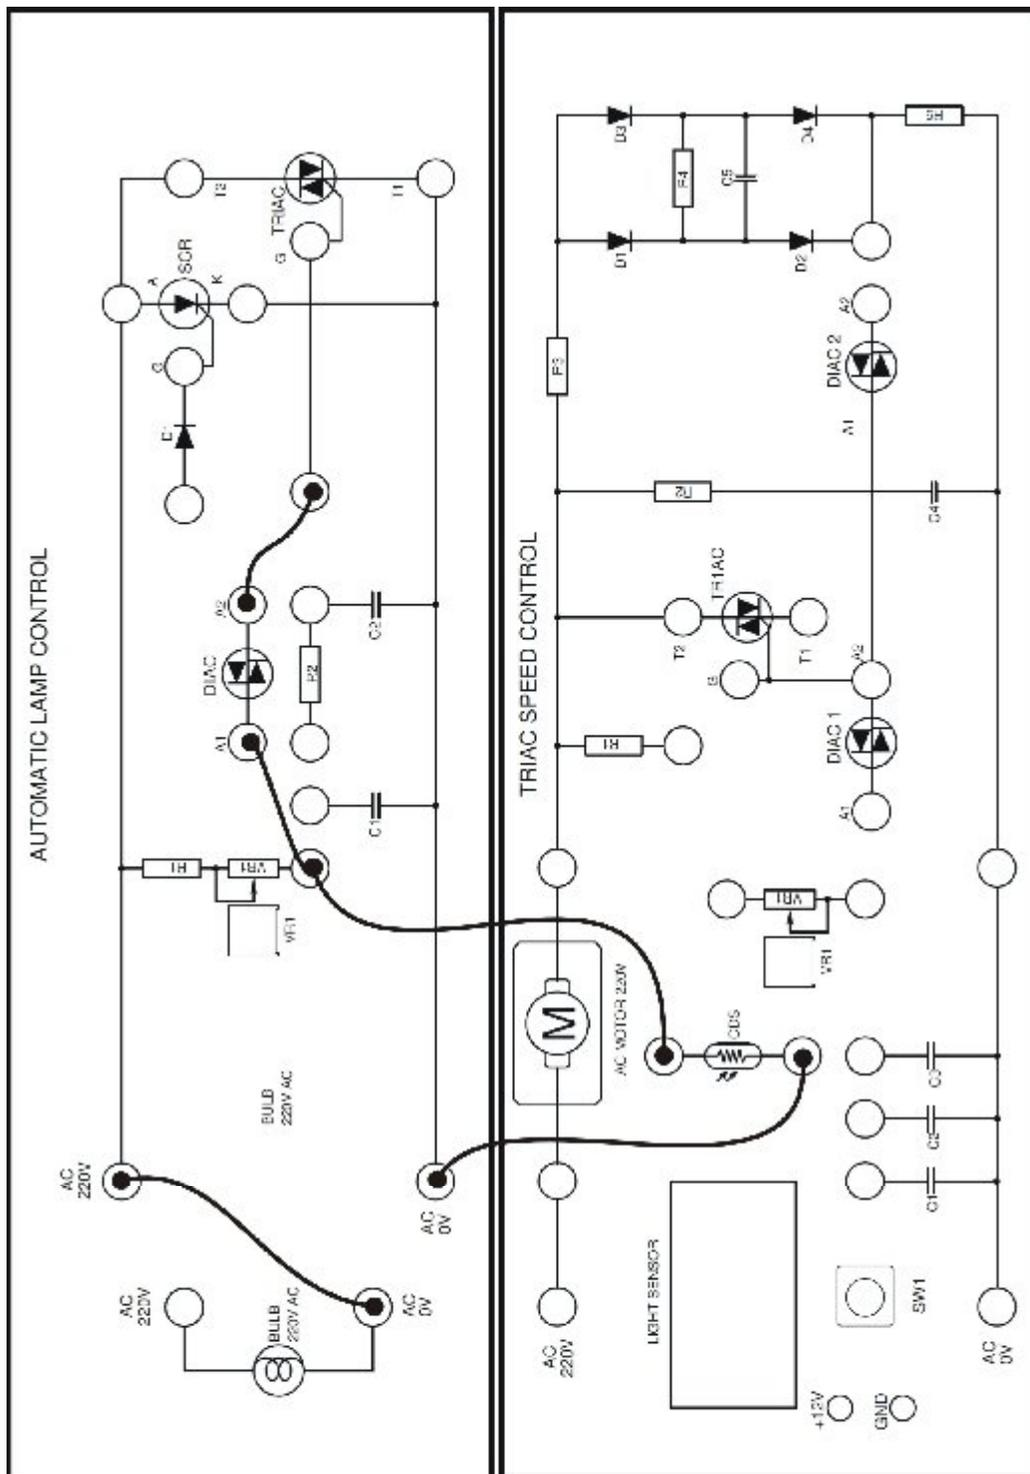

Fig 12.11
8. Make connection as shown in fig 12-11. Expose CDS to normal light level. Adjust VR1 to keep TRIAC in off state before conducting.